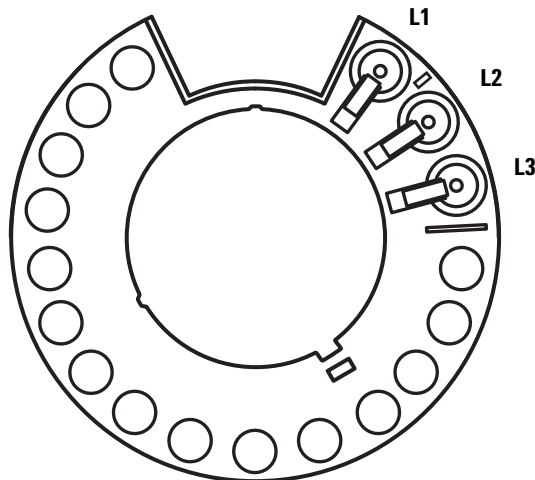

Figure 72 Transfer turret positions L1, L2, L3 (top view)
- 2 Remove any vials from transfer turret positions L1, L2, and L3 for all installed injectors (Figure 72).